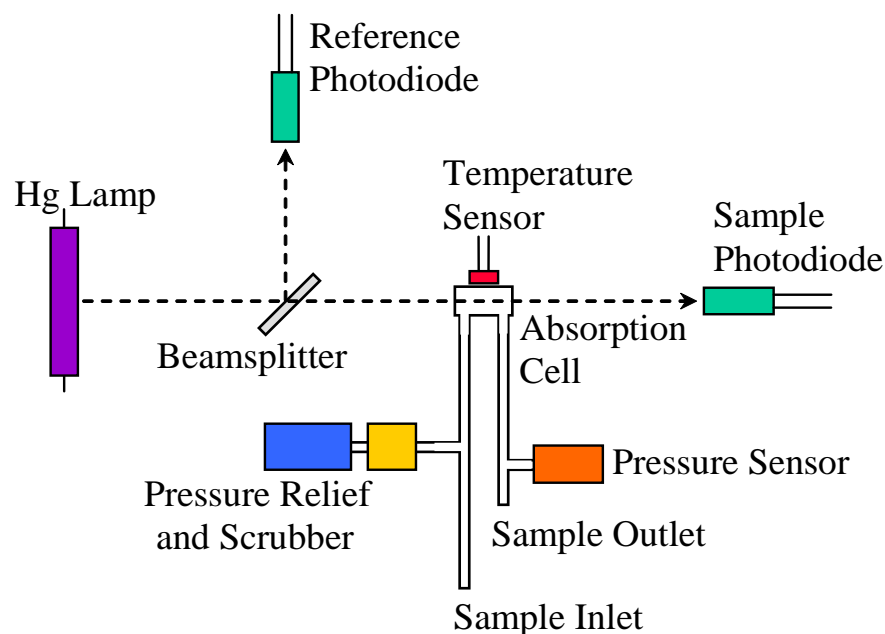

Figure 1.1. Schematic Diagram of the Model 106-H Ozone Monitor.
Figure 1.1 is a schematic diagram of the Ozone Monitor. Ozone is measured based on the attenuation of light passing through a 0.1 cm absorption cell fitted with sapphire windows. A low-pressure mercury lamp is located on one side of the absorption cell, and a sample photodiode is located on the opposite side of the absorption cell. The photodiode has a built-in interference filter centered on 254 nm, the principal wavelength of light emitted by the mercury lamp. A beamsplitter and reference photodiode are used to monitor the lamp intensity without the sample in the beam path. The intensity of light is measured from the reference photodiode (I_o) and from the sample photodiode (I).